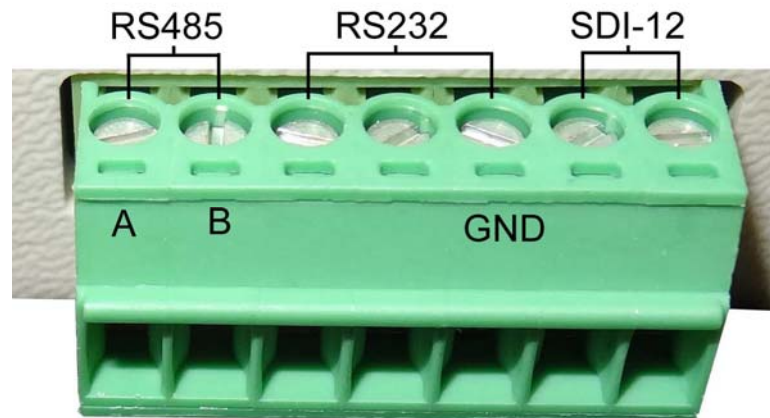

Figure 4 – RS485 output connector marking
- Figure 4 – RS485 output connector marking7